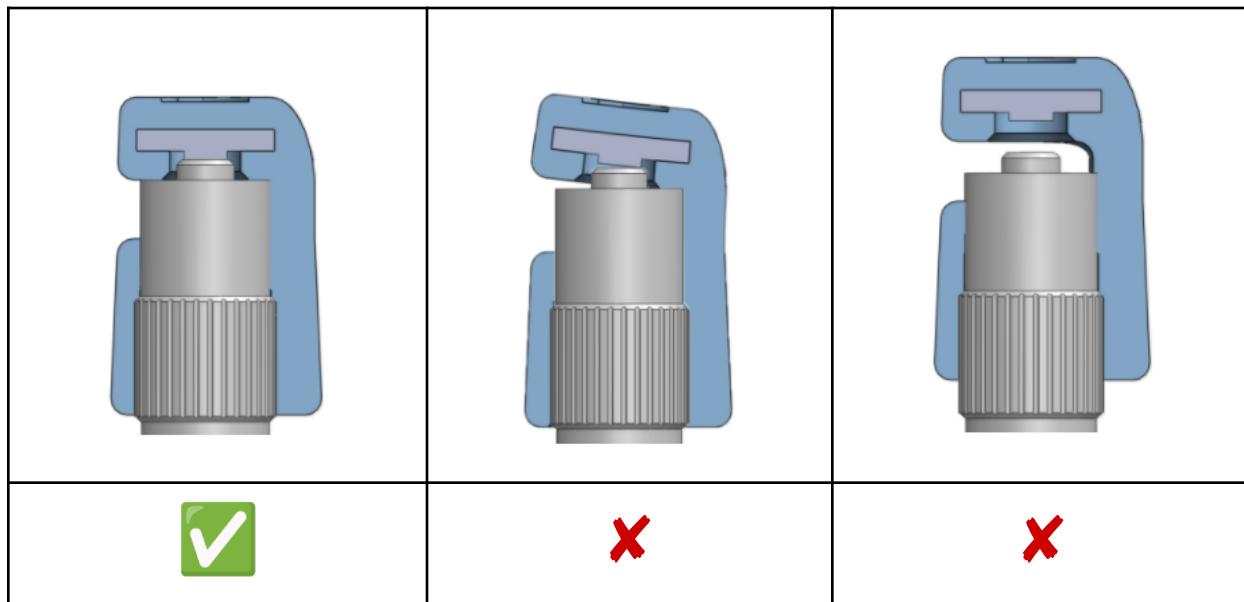

Figure 1: Proper positioning (left) and improper positioning (middle, right) of Sky Blue GloShield® -- REF 16-2001
4. Ensure GloShield® is positioned flush with the cable adapter such that the tip of the cable is covered (Figures 1 & 2).
9. Upon scope disconnection, verify light cable is covered (Figures 1 & 2).